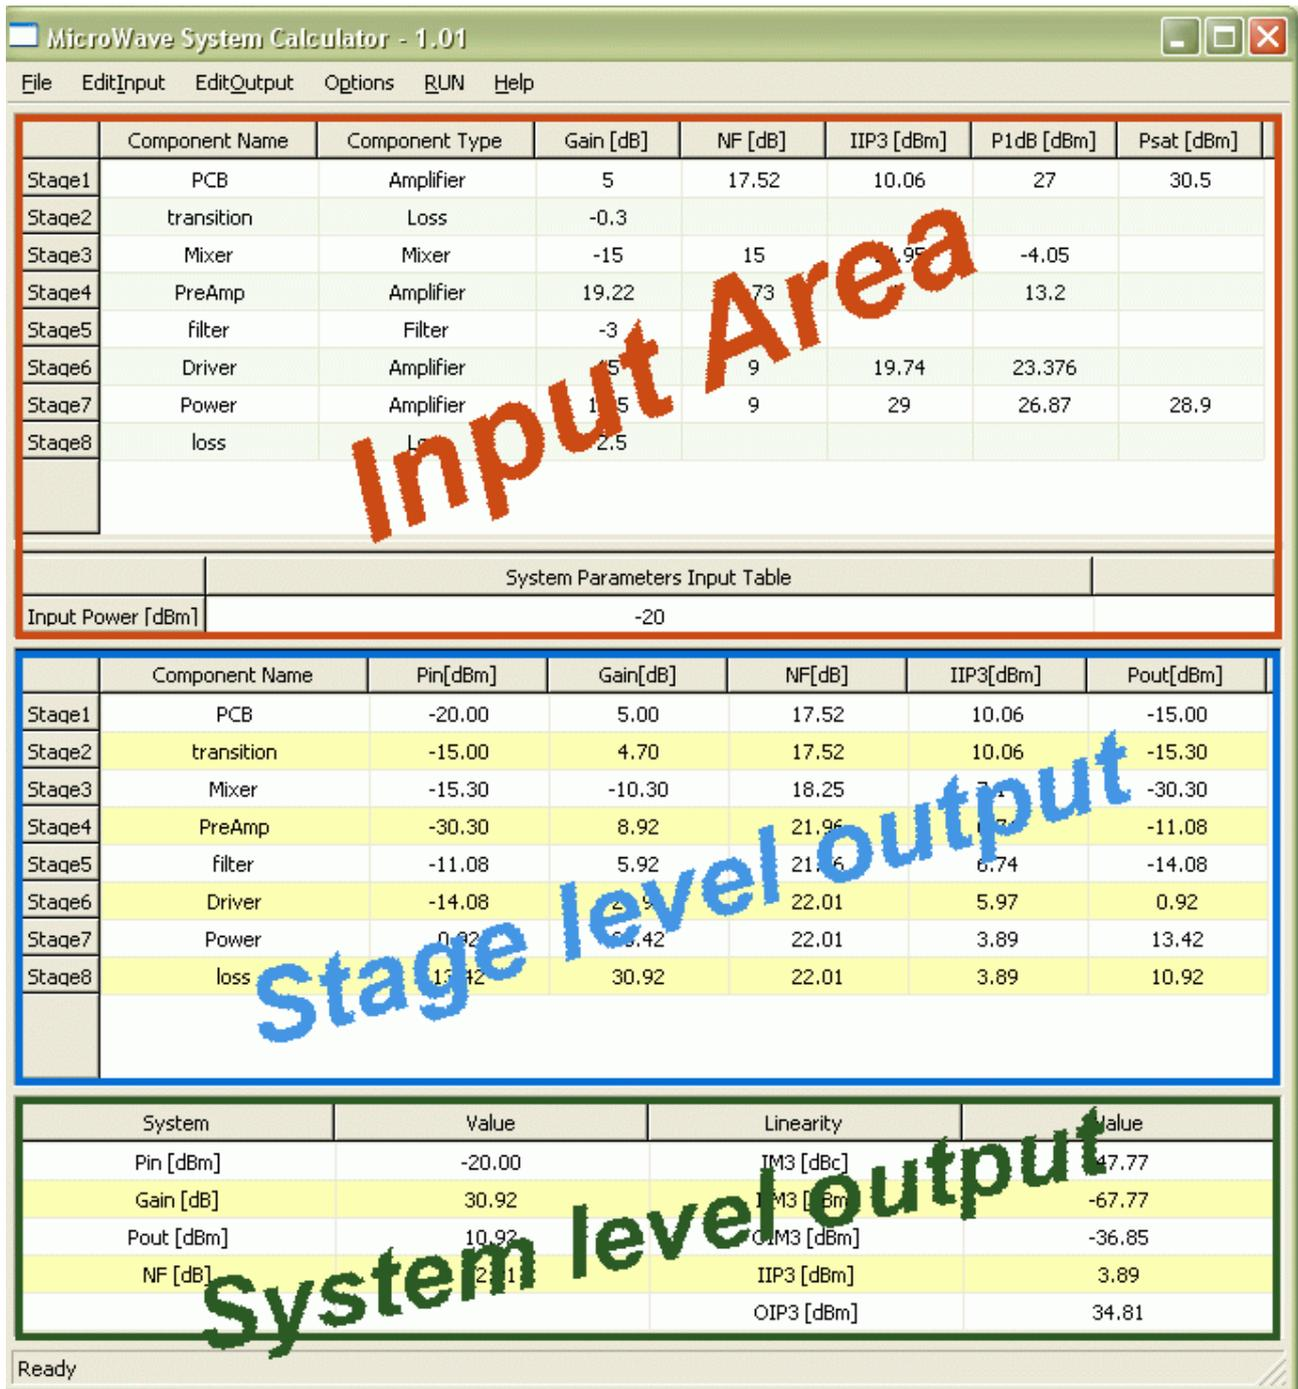

Figure 1: Mystic main window
- On the higher part of the window (red box in Figure 1) you can edit the input file which describes the component chain constituting your system.
- output table at stage level (see blue box in Figure 1)
- output table at system level (see green box in Figure 1)